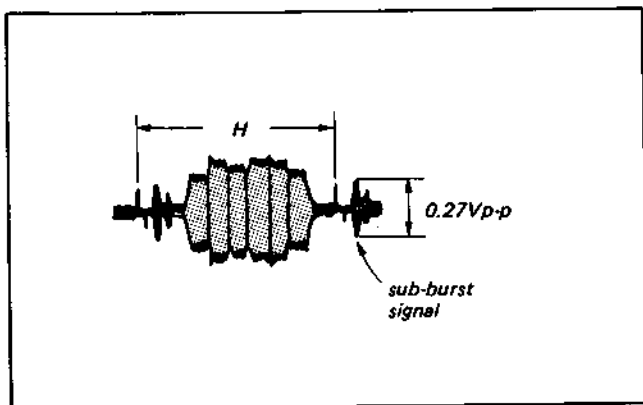

Fig. 4-41. Level adjustment of sub-burst signal
- (7) Adjust RV22 for the sub-burst signal level of 0.27 Vp-p. (Fig. 4-41).